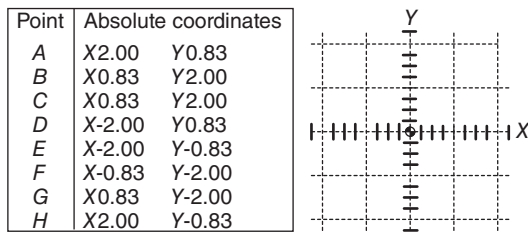

Figure 17-35 Use graph paper to create a program grid like this.
7. On graph paper, draw a graph similar to that shown in Fig. 17-35, then plot these points and label them in order. Then connect the dots to form a familiar shape. All lines will be straight. Some may be diagonal on the page.